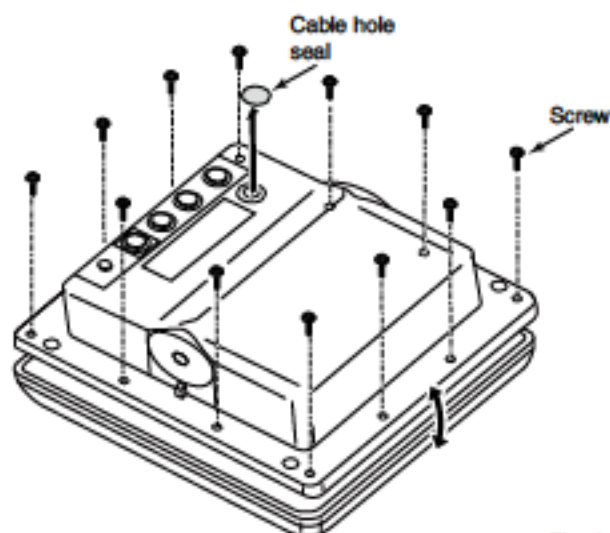
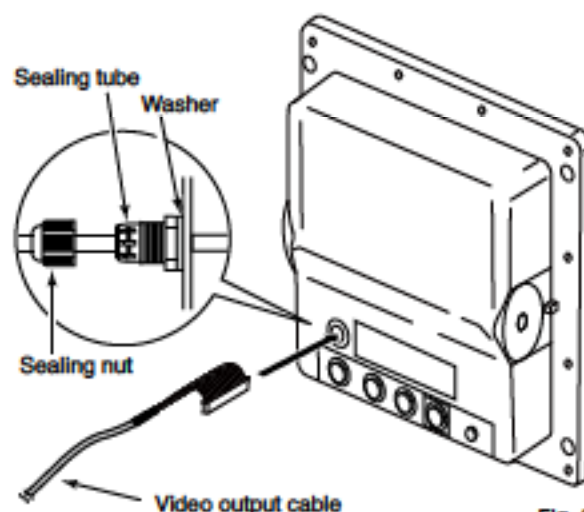

Fig. 1
Fig. 2
① The monitor requires the resolution of 640 x 480 or higher.
1. Remove the cable hole seal on the left of the serial number label of the display unit. (Fig. 1)
2. Remove the 12 screws from the display unit's rear panel. (Fig. 1)
3. Slowly open the rear case and disconnect the four connectors from the display's main board. (Fig. 1)
- ① One of the connectors has a lock. Hold the release on connector head to disconnect the connector.
4. Pass the video output cable through the hole, then screw in and tighten the sealing tube. (Fig. 2)